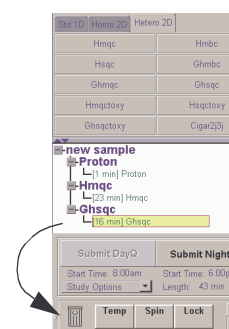

Figure 1. Removing a Protocol from a Composite Protocol
1. Drag and drop an individual protocol for a sample in to the trash can, see Figure 1.